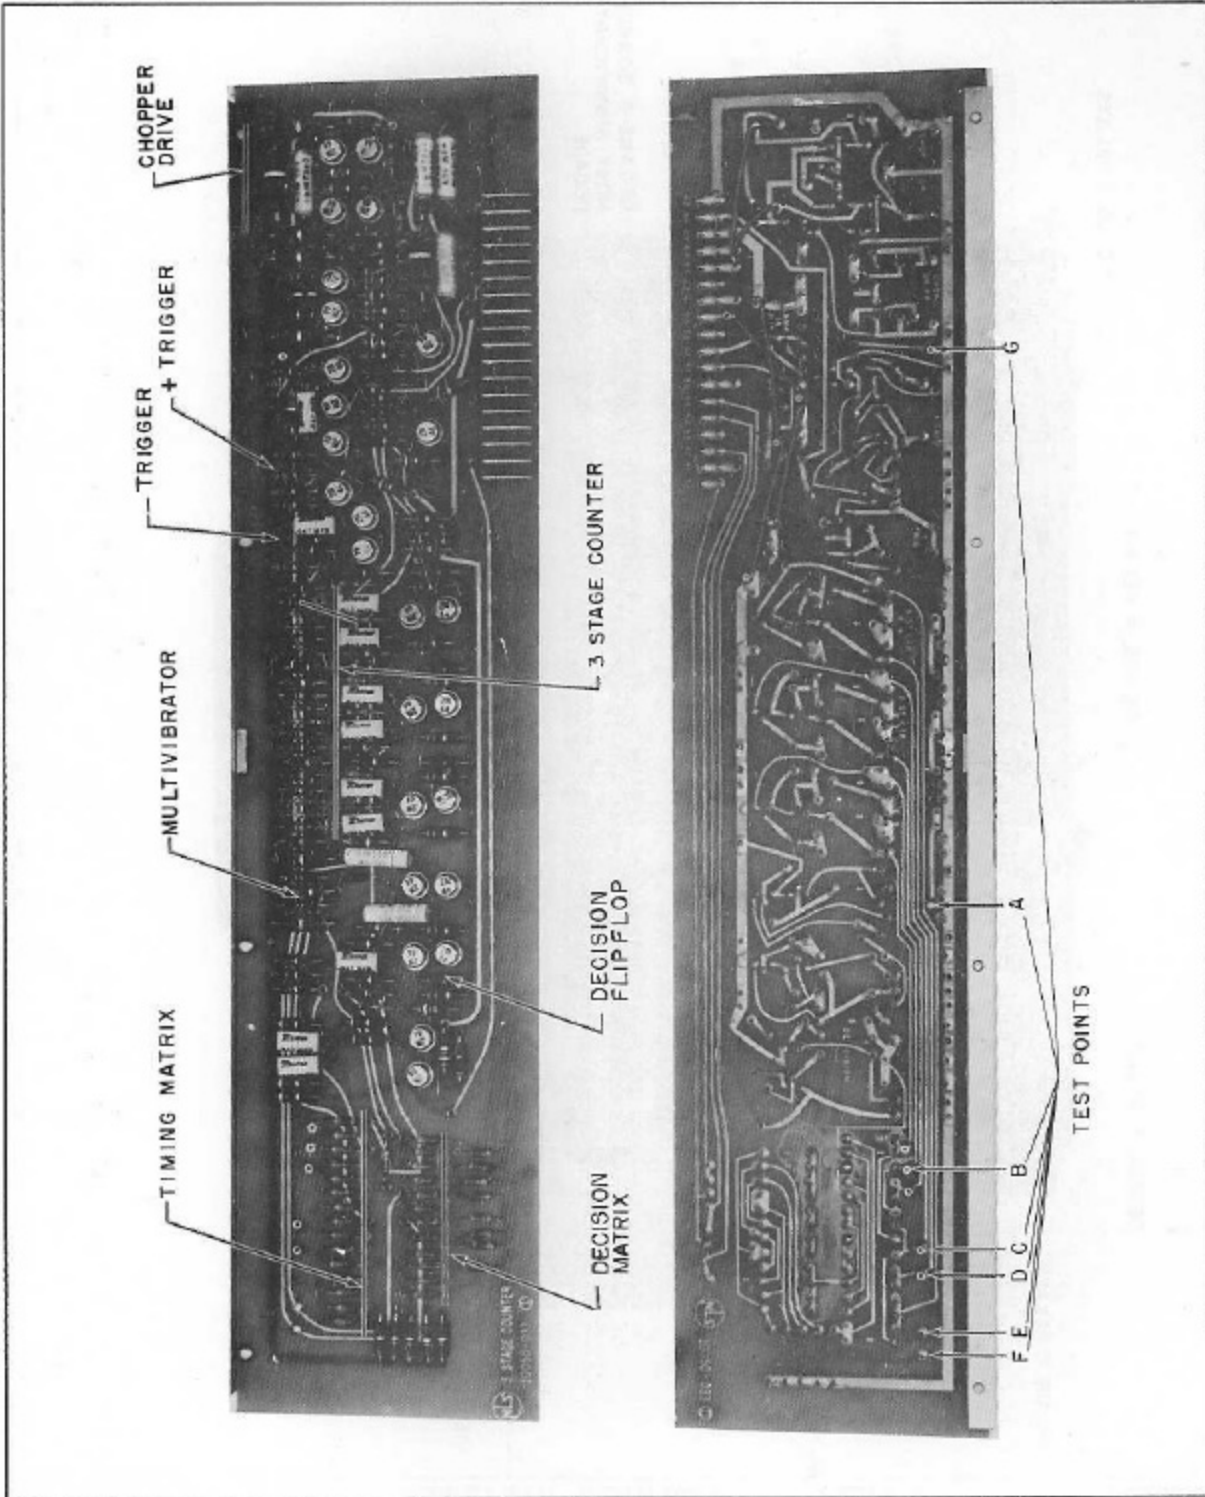

FIGURE 5-4. 3 STAGE COUNTER BOARD
12. Connect the oscilloscope to the output of the "+" trigger (Test Point "F", Figure 5-4).
17. Connect the scope to the "-" trigger output (Test Point "E", Figure 5-4) and repeat Steps #13 and #14.
- a. Connect a voltmeter or a scope beam to each trigger output (Test Points "E" and "F", Figure 5-4)